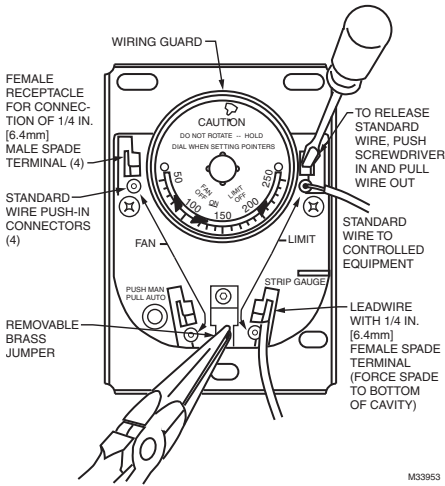

Fig. 5. Location of Wiring Connections.
Disconnect power supply before beginning installation to prevent electrical shock or equipment damage. All wiring must comply with local electrical codes and ordinances or in the absence of local codes with the National Electrical Code ANSI C1-1981-NFPA 70. Follow burner or furnace manufacturer's instructions if available; otherwise, see Fig. 5 and proceed as follows.
The brass jumper is the breakaway type. It must be removed when the limit is used in the low voltage circuit. To remove jumper, break with a needlenose pliers and remove completely. Once removed, it is not replaceable. See Fig. 5 for location.
Connections can be made to standard wire push-in terminals or female receptacles for 1/4 in. (6.4 mm) male flag connectors on both the fan and limit switches (Fig. 5).
3. Solid wire may be inserted directly into the terminal holes. If stranded wire is used, insert a small screwdriver into the slot next to the terminal. Push screwdriver in and hold while inserting wire into terminal (Fig. 5). Remove screwdriver. If stranded wire is solder-dipped, it can be pushed directly into terminal holes.
3. Push male flag connector directly into the female receptacle. Make sure that the flag is forced to the bottom of cavity and wire is in the channel (Fig. 5).